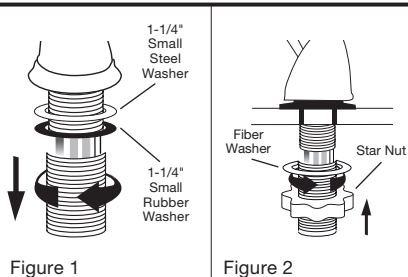

Figure 1
- ☐ Unscrew and remove threaded extension from valve body. **Do not discard, as you will need this later** (See Figure 1).